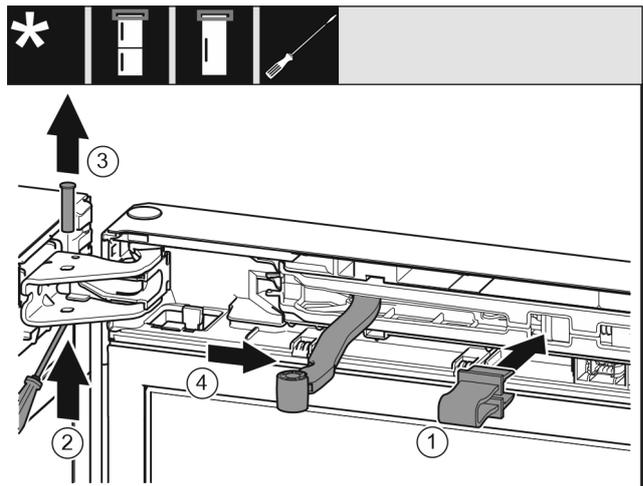

Fig. 8
- ▶ Engage the locking device in the opening. Fig. 8 (1)
- ▶ Unscrew the bolt with a screwdriver. Fig. 8 (2)
- ▶ Remove the bolt upwards. Fig. 8 (3)
- ▶ Turn the hinge in the direction of the door. *Fig. 8 (4)*